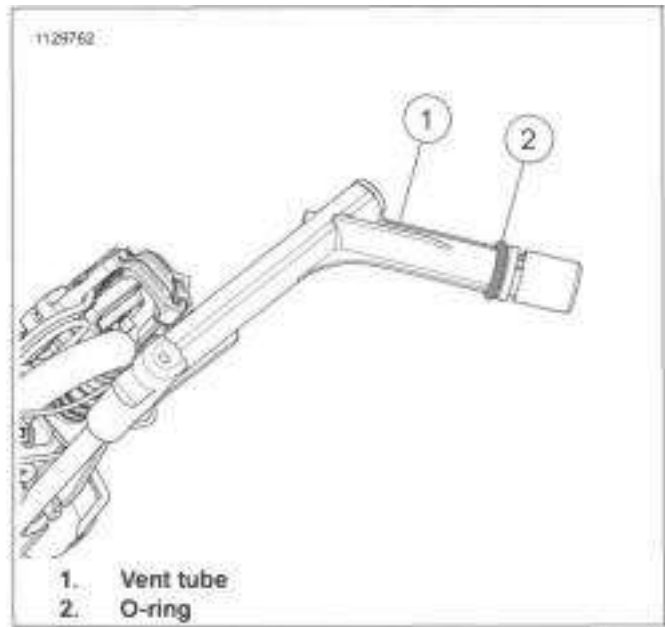

Figure 6-17. Vent Tube O-ring Location
**3.5 gal tank pump:** See Figure 6-17. Inspect o-ring (2) on vent tube (1) and verify proper location.